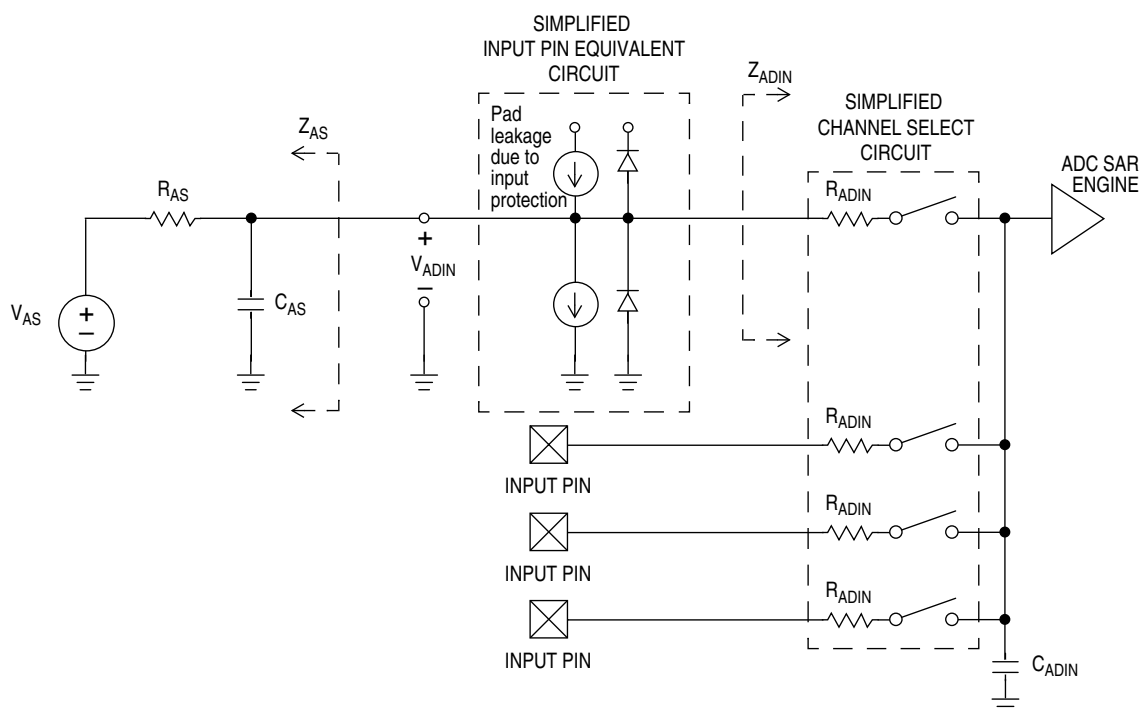

Figure A-8. ADC Input Impedance Equivalency Diagram
- ¹ Typical are measured at 25°C. See Figure A-8 through Figure A-10 for typical curves across voltage/temperature.